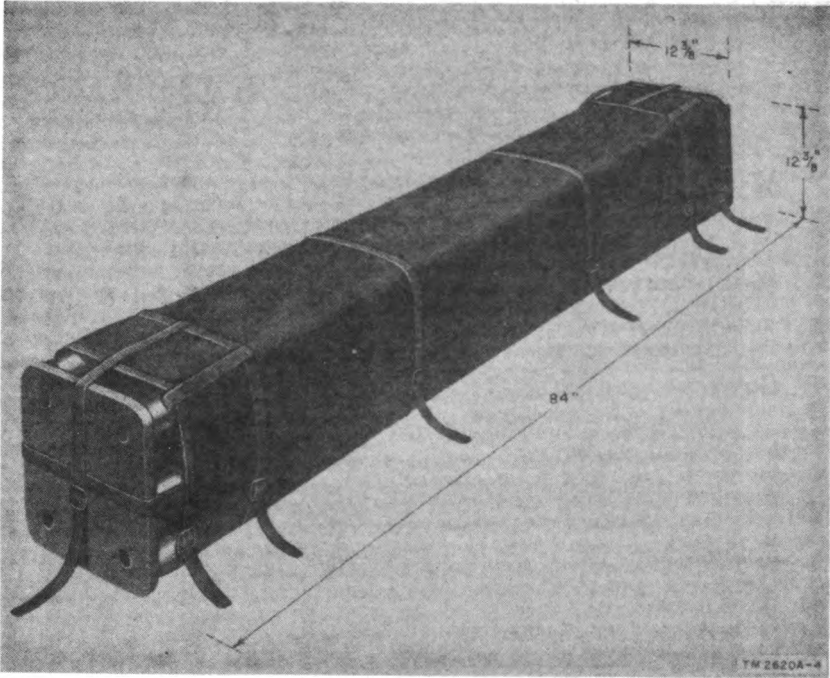

Figure 4. Antenna Support AB-38B/CR, in canvas cover, for domestic shipment.
a. **DOMESTIC.** Antenna Support AB-38B/CR is wrapped in a canvas holder and weighs 194 pounds (fig. 4). The packed equipment is 12³/₈ inches high, 12³/₈ inches deep, and 84 inches long. The total volume of the package is 7.45 cubic feet.